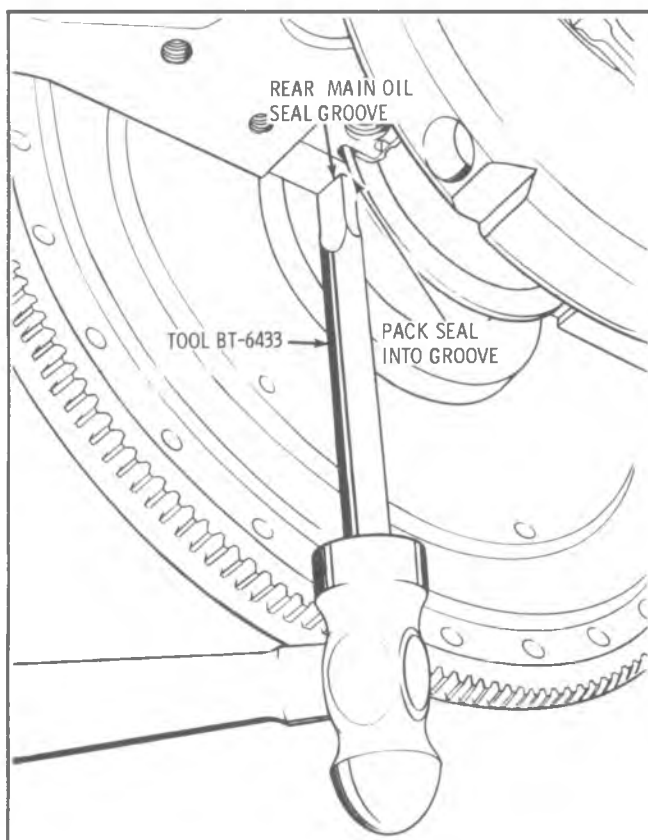

Fig. E-96—Packing Oil Seal
2. Insert Packing Tool BT-6433 against one end of seal in cylinder block and drive the old seal gently into the groove until it is packed tight. This varies from 1/4" to 3/4", depending on the amount of pack required. (Fig. E-96)